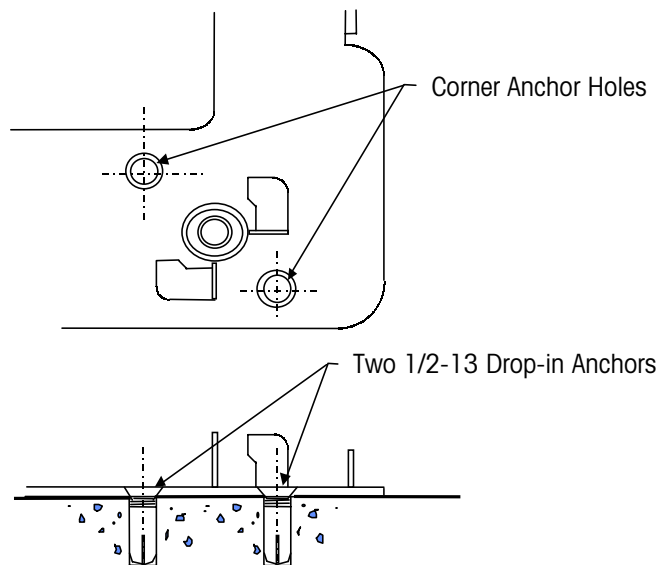

Figure 3-1: Frame Anchoring (Typical Each Corner)
1. Locate the anchor holes in all four corners of the frame. There are a total of eight anchor holes, two holes per corner (see Figure 3-1).